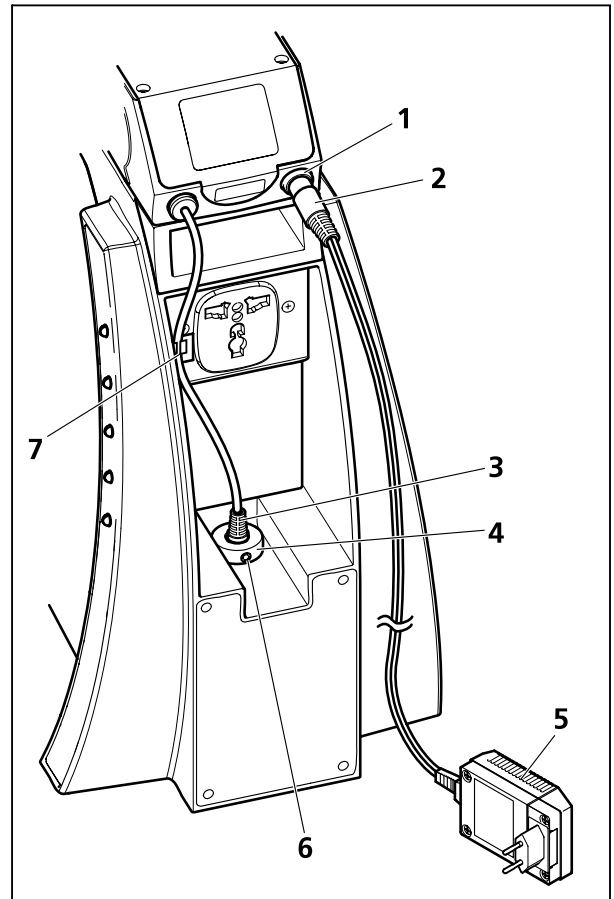

Fig. 9 Connecting the power supply unit
- Loosen the set screw (Fig. 9/6) on the back of the device, unplug the connector (Fig. 9/2) of the plug-in power unit (Fig. 9/5) and insert it into the connection socket (Fig. 9/1) of the reflected-light illuminator.
- Plug the connector (Fig. 9/3) of the reflected-light illuminator into the connection socket (Fig. 9/4) at the stand and tighten the set screw (Fig. 9/6).
- Fasten the cable of the reflected-light illuminator by pushing it into the cable clip (Fig. 9/7).